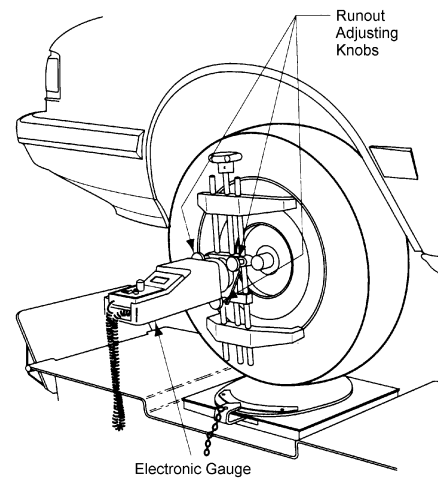

Figure 7
- 2) Mount the Electronic Gauge on the Wheel Clamp as shown (See Fig.7). Center the magnet on the Wheel Runout Compensating Adapter. Turn the Electronic Gauge so it is level.